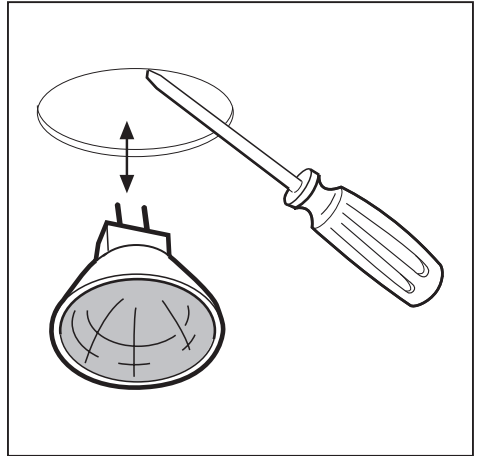

Fig.18
• **Replacing halogen light bulbs (Fig.18):**